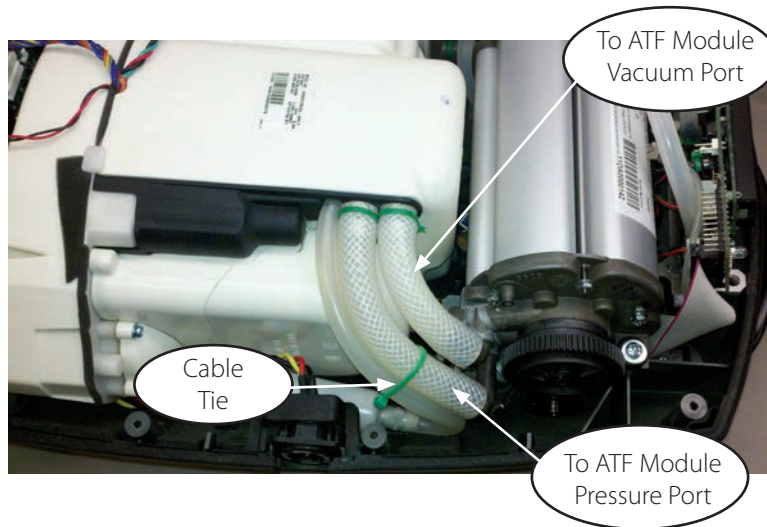

Figure 58: Removal of Compressor Pressure and Vacuum Hoses from ATF Module.
5. Cut the three cable ties shown in Figure 58. Disconnect the two braided hoses from the pressure and vacuum ports of the ATF. Cap the three ATF module ports using tight fitting vinyl caps or vinyl electrical tape.
10. Install the braided tubes into the ATF pressure and vacuum ports as shown on Figure 58 on previous page. Secure joints with cable ties.
11. Use a cable tie to secure the silicone tube to the braid tube to ensure that there is NO kinking on the bend as shown on Figure 58 on previous page. Hand tighten the cable tie. Inspect the tubing to ensure the tubing is not kinked.